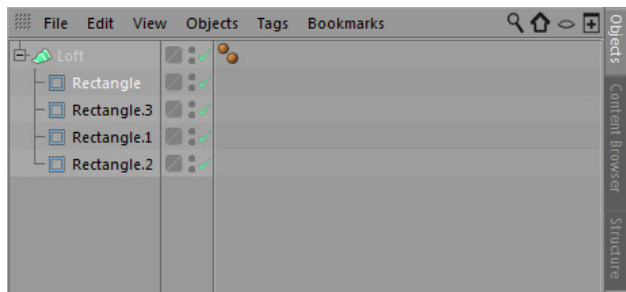
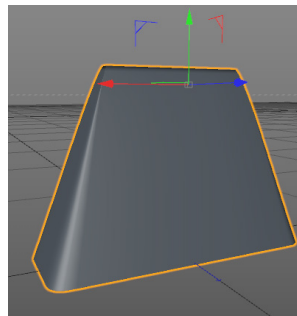

Figure 2-41 Rectangle, Rectangle.1, and Rectangle.3 connected to Loft
Figure 2-42 All Rectangles lofted in the Perspective viewport
16. Connect *Rectangle.1*, *Rectangle.3*, and *Rectangle* to *Loft* in the Object Manager, as shown in Figure 2-41. The order of the rectangle should be the same, as shown in Figure 2-41. On doing so, a lofted surface resembling the shape of a hand bag is created in the Perspective viewport, as shown in Figure 2-42.